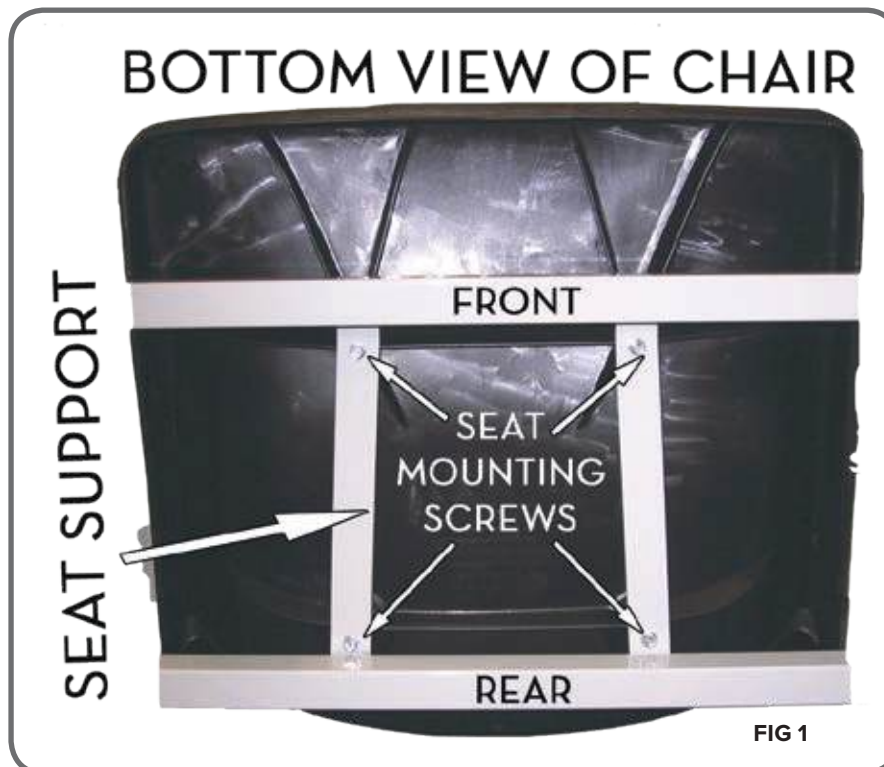

FIG 1
2. Align the mounting holes on the plastic Seat with the Seat Support holes. Hole spacing of Seat and Seat Supports will be narrower toward front of chair. Seat can only be installed facing one direction. (FIG 1)
3. Using the included wrench (or your own $\frac{5}{16}$ " tool), install the four (4) included Seat Screws through the holes of Chair Frame, and into the four (4) holes on bottom of the plastic Seat. Make sure screws are completely tightened. (FIG 1)
1. If the **Arm Assembly** has not yet been installed, insert it into the **Receiving Tube** on the **Seat Frame Assembly**. (FIG. 1) *This applies to any style arm assembly)
- * **ALWAYS** make sure that the slot in the Arm Assembly faces the Knob installed on the receiving tube. (FIG. 1)
2. Insert the 1/8" Hex Key into the underlying access hole as shown and turn the screw located inside clockwise until the screw is firmly pressed against the Arm's Hinge Plate. (FIG. 1)